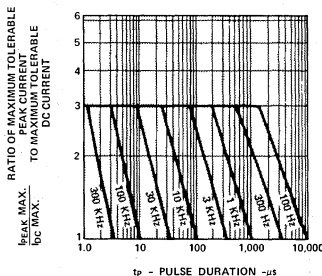

Figure 5. Maximum Tolerable Peak Current vs. Pulse Duration. ( $I_{DC}$  MAX as per MAX Ratings).
- See Figure 5 (Red/Orange), 10 (Yellow) or 15 (Green/Emerald Green) to establish pulsed operating conditions.